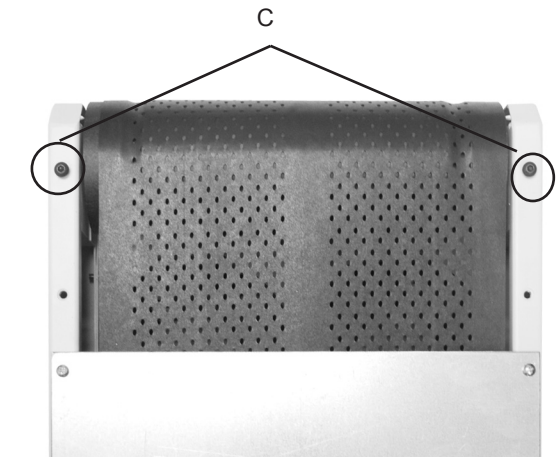
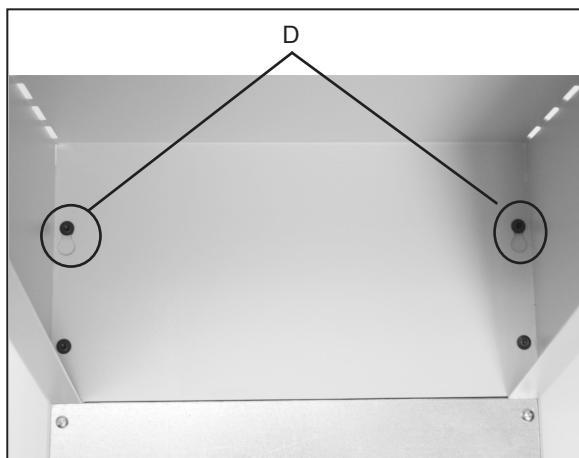

Fig 2
Fig 3
3. With conveyor laying upside down, install leg assembly. Install two Allen screws to the outer edge of the conveyor (Fig 2 item C) do not tighten all the way, leave enough space to slide the keyhole, in the top of the leg assembly, into position (Fig 3 item D). Insert two screws into the two remaining holes, tighten when all screws are in position (Fig 4). Allen screws are provided in accessory bag.